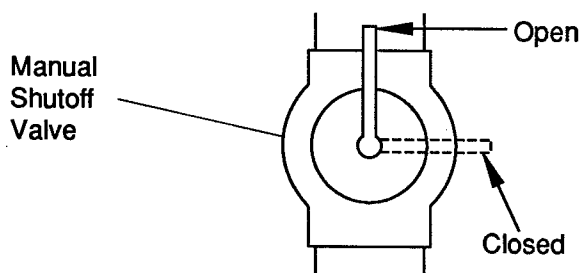

Figure 12 - Manual Shutoff Valve
1. Close manual shutoff valve (see Figure 12).
1. Open manual shutoff valve (see Figure 12).